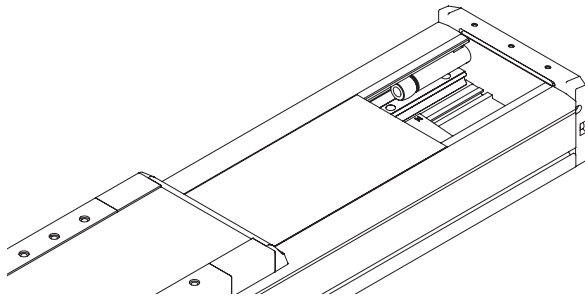
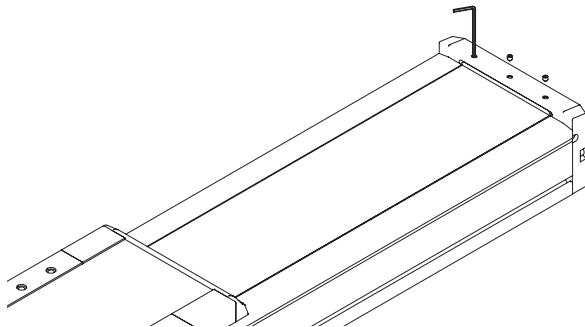

Fig. 7.8 Mounting the cover strip under the cover strip clamp
Fig. 7.9 Removing/mounting the cover strip clamp
- ▶ Undo the clamping screw of the cover strip clamp at both ends of the axis as shown in Fig. 7.9.
- ▶ Push the ends of the cover strip under the cover strip clamp on both sides. Make sure that the cover strip is aligned centrally with the axis profile and that it is in contact with the magnetic strips across the entire length. Hand-tighten the clamping screws of the cover strip clamp (see Fig. 7.8 and Fig. 7.9).
- ▶ Check whether the cover strip is centred in the axis profile when the carriage moves and, if necessary, align the cover strip centrally by loosening the cover strip clamp (Fig. 7.9).